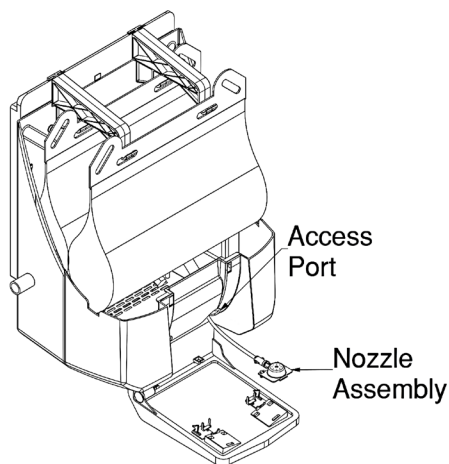

FIGURE 8
- A. With Lid Assembly removed and Tray Assembly in the open position, feed the first Nozzle Assembly (part of Fluid Cartridge Assembly) through the Access Port on the Housing Assembly. **(Ref Figure 8)**